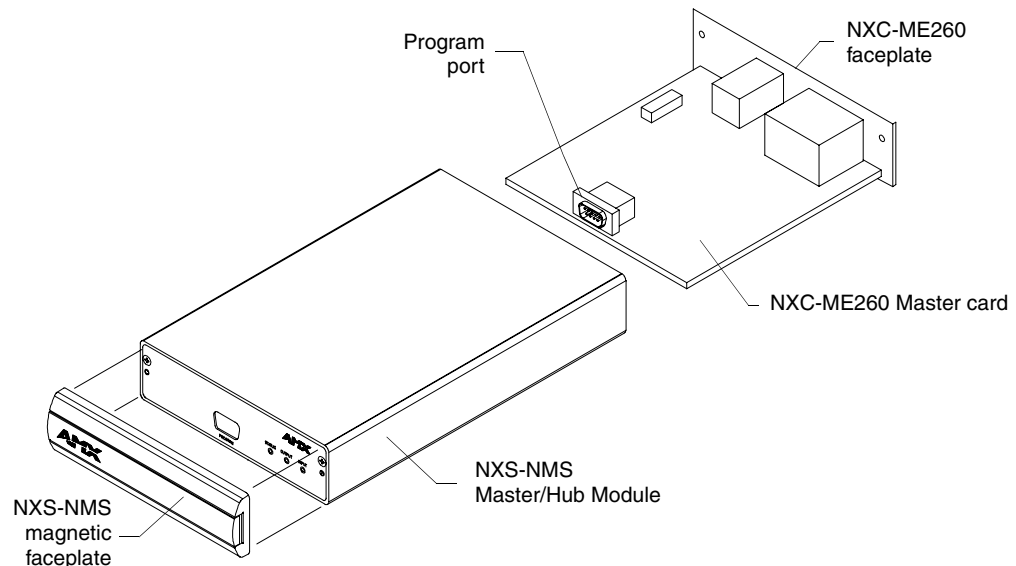

FIG. 12 Component locations on both NXC-ME260 and NXS-NMS
3. Pull-away the magnetic faceplate from the front of the NXS-NMS. This exposes the front panel LEDs and Program port opening (FIG. 12).
5. Grasp the NXC-ME260 by the faceplate and direct the Program port (on the front of the card) into the opening on the rear of the NXS-NMS (FIG. 12).